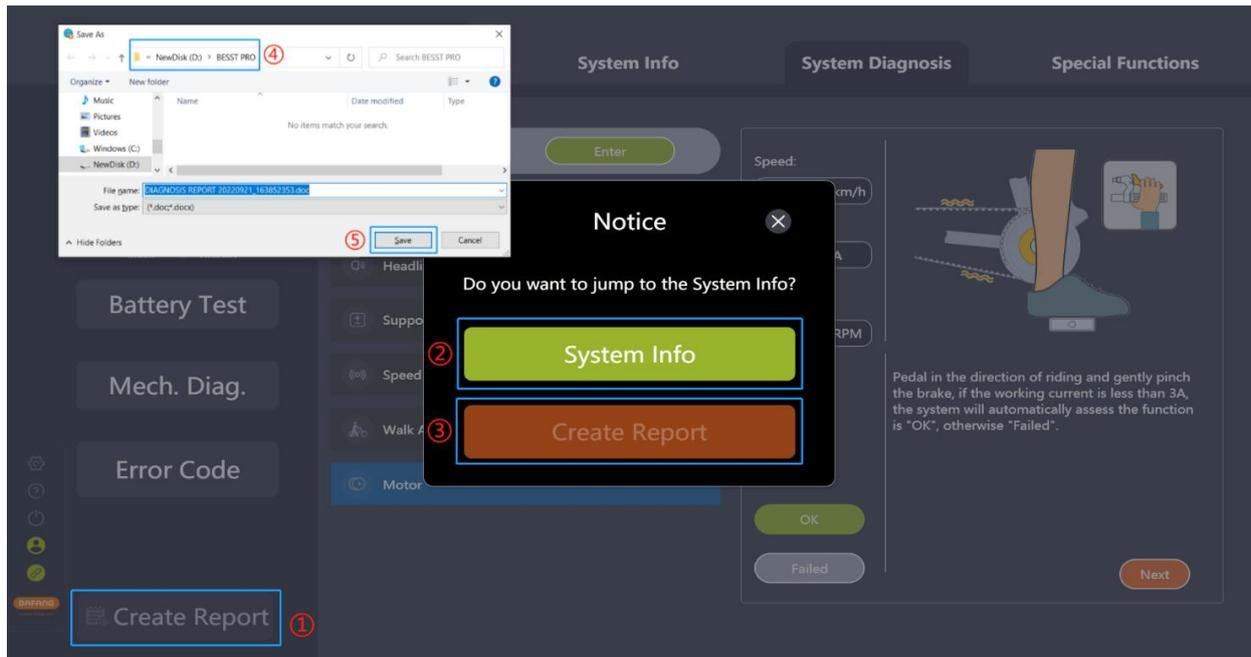

Fig. 7-9 Create report in System Diagnosis
- (1) Click "Create Report", and a pop-up window will prompt "Do you want to jump to System Diagnosis?" (Fig.7-9).
- (2) For system diagnosis, click "System Diagnosis" to jump to it.
- (3) Click "Create Report".
- (4) Select the local save path.
- (5) Click "Save" to generate a PDF report.